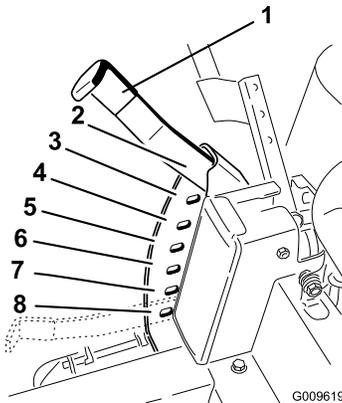

Figure 19
1. Raise the height-of-cut lever to the transport position, cutting height position 4.5 (also the 4-1/2 inch [115 mm]) (Figure 19).